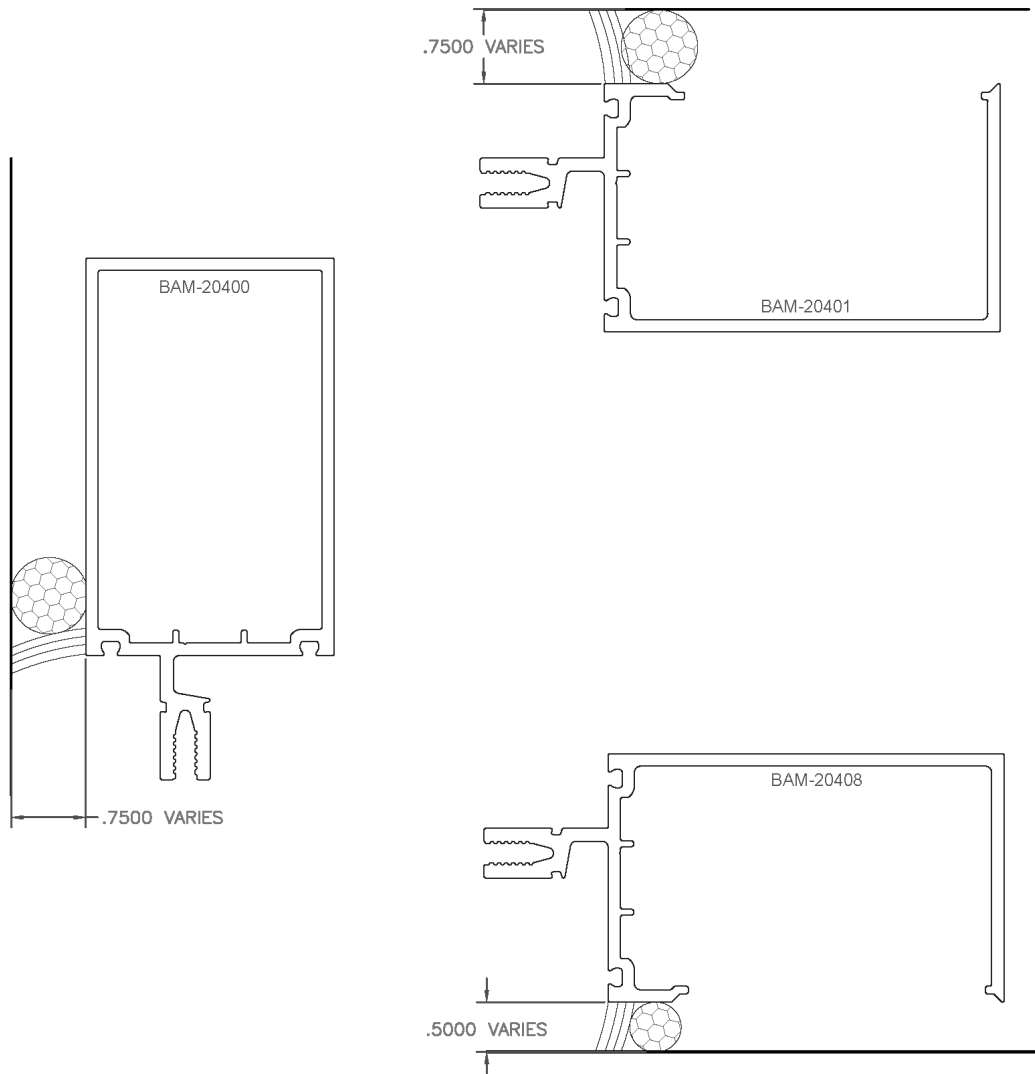

FIGURE L.1
- Apply perimeter seal as required by condition. (FIGURE L.1)